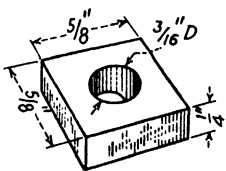

Fig. 304.
33. Calculate the weight of 5,000 of the steel items in Fig. 304.